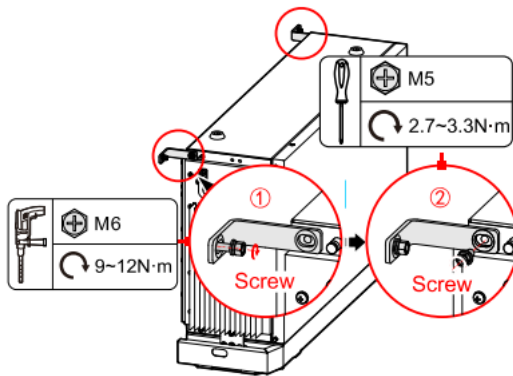

Figure3-18 Fix the wall bracket (a)
2. Fix the wall bracket (a) of bottom battery module, as shown in Figure3-18.